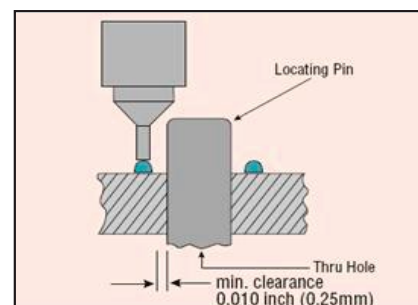

Figure 7-9 Dispensing path obstructed
**Through-hole interference.** In cases where the housing incorporates through-holes used to position the part on its pallet, the holes must not intersect the dispensing path. Clearance of less than 0.010 in (0.25 mm) could result in screw heads or locating pins obstructing the dispensing needle (Figure 7-9).